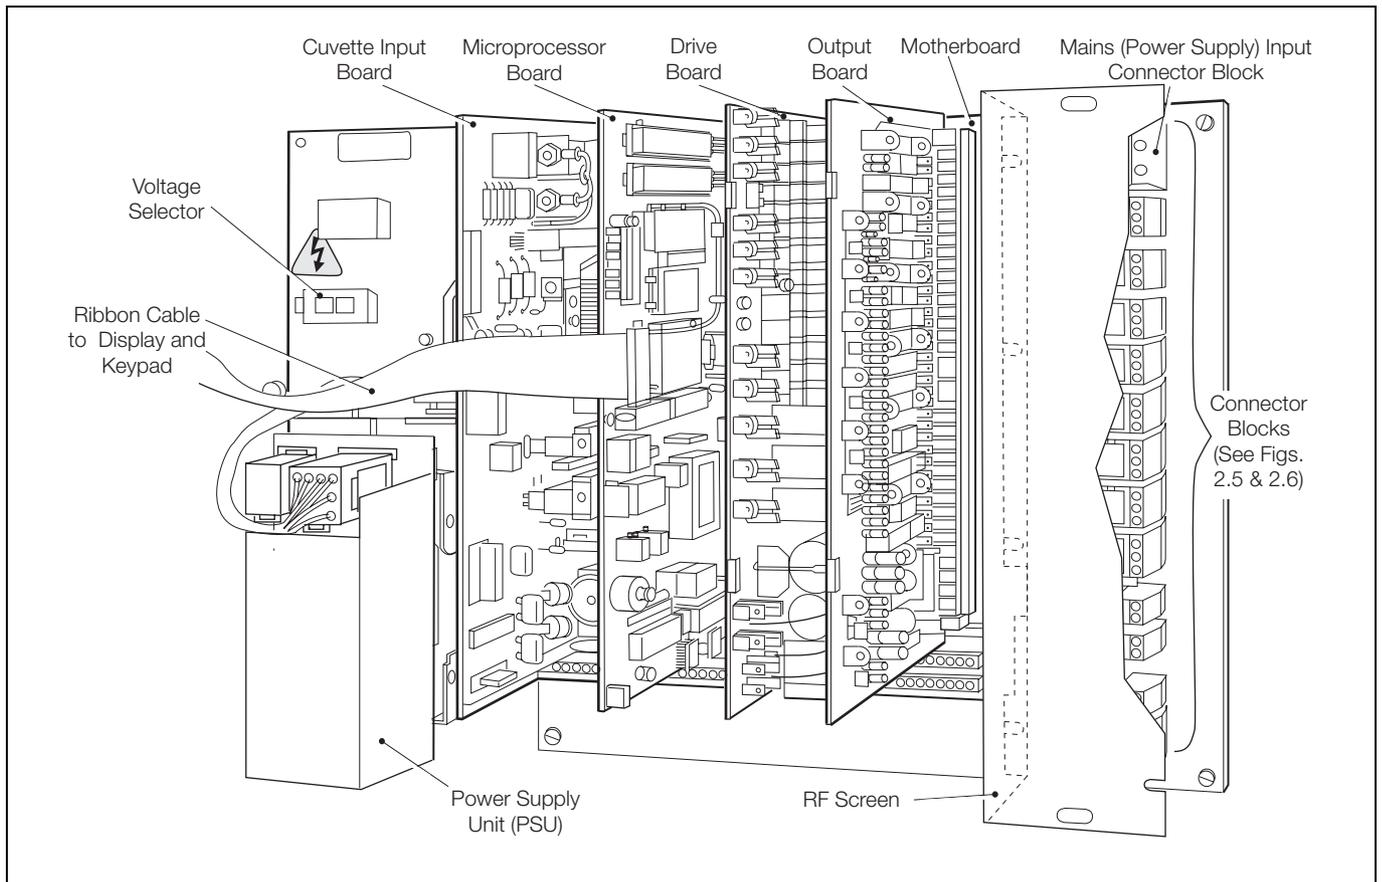

Fig. 5.3 Microprocessor Unit
5.4 Microprocessor Unit – Figs. 5.3 and 5.4